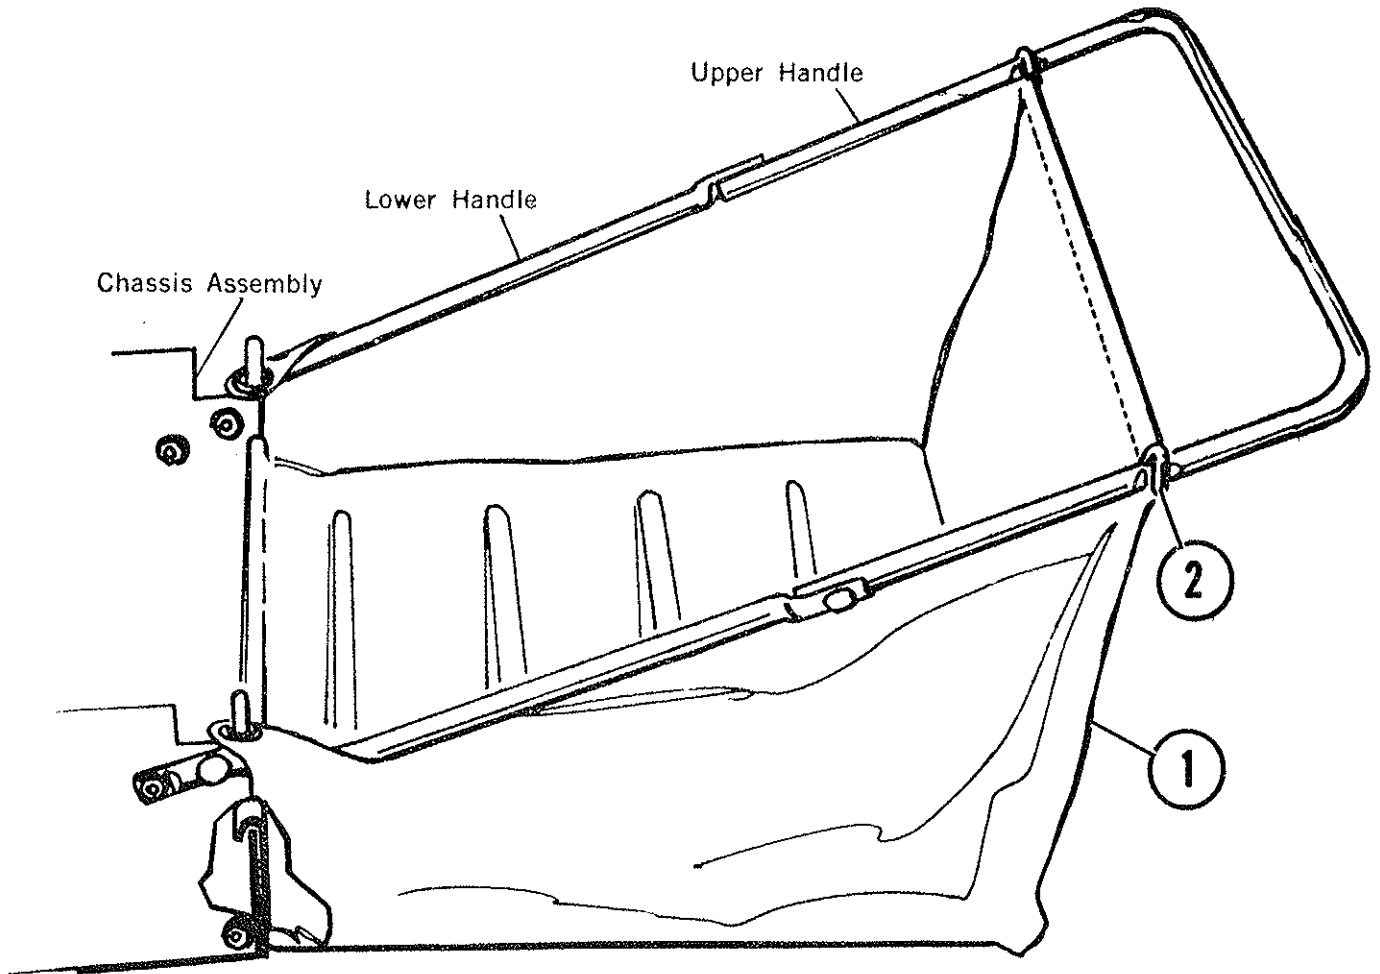

Figure 4
- 1 ~~SA-608-D~~ Basket Assembly - Fig. 4
- 1 77-39-A Basket Support - Fig. 4
4. Ref. Fig. 4 - Now insert the Basket Support Rod through the hem in the Basket back and place the Basket in position between the Handles. Hook the Support Rod in the notches on the Upper Handle. Hook the Basket Bottom over the Chassis Assembly and bring the eyelet ends of the Basket material over the outside of the Lower Handle and hook on the Chassis Assembly (both sides).